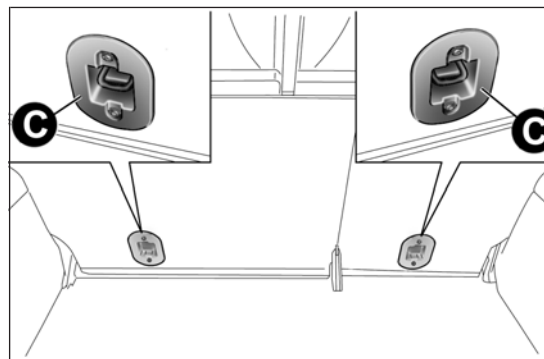

fig. 113
- secure the upper belt (available together with the seat) to the special attachments C fig. 113 located in the rear part of the backrest.